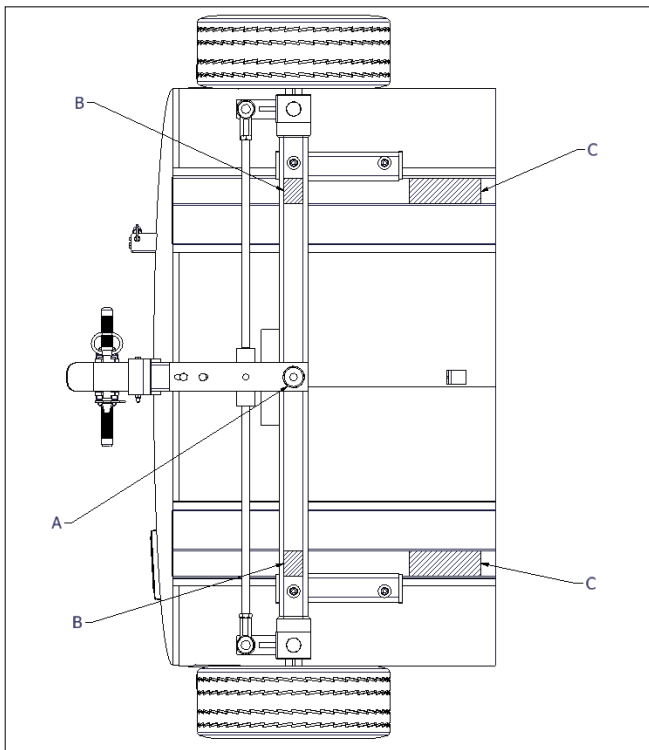

Figure 4-4 Lift Points
- Raise equipment with suitable maintenance jack (see Figure 4-4, reference arrow A for jack placement) high enough to remove wheel assembly.
- Place approved jack stands under front axle (see Figure 4-4, reference arrow for stand placement).
To remove the entire Front Undercarriage assembly, the equipment must have the front end raised. See Figure 4-4 for lift points.
- Raise equipment with suitable maintenance jack (see Figure 4-4 arrow A for jack placement) to allow four inches of space between the wheels and ground.
- Place cribbing under tank skirts (see Figure 4-4, reference arrows C) to safely support the equipment.
- Remove bolts (2) and nuts (3).
- Pull Front Undercarriage forward. Note location of rubber mounting pads (5).
- Raise equipment with suitable maintenance jack high enough to remove wheel assembly. (see Figure 4-4, arrow A for jack placement).
- Place approved jack stands under rear axle (see Figure 4-4, arrow B for stand placement).